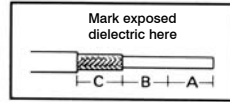

Figure 15
**Note:** An adjustment of the tool might be necessary. A correct strip is shown in Fig. 15.